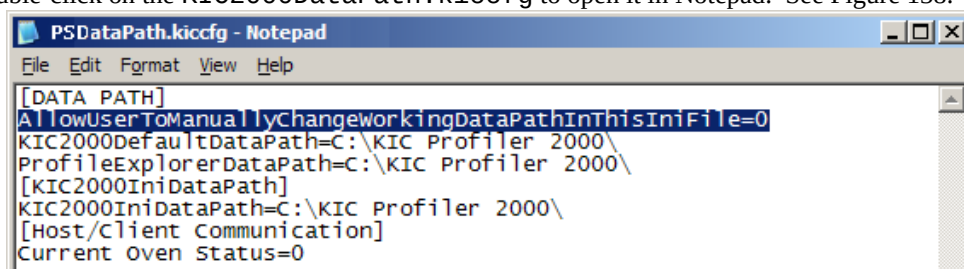

Figure 138
2. Double-click on the KIC2000DataPath.kiccfg to open it in Notepad. See Figure 138.